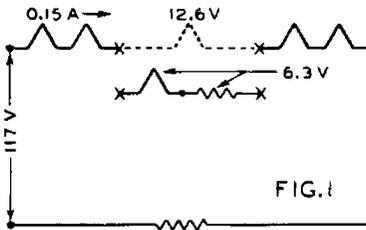

FIG. 1
**FIG. 1**—To substitute a 6.3 v. 150 ma. type for a 12.6 v. 150 ma. type, calculate value of the resistor to be added in series with the 6.3-volt heater. Using the formula  $R = E/I$ , we have